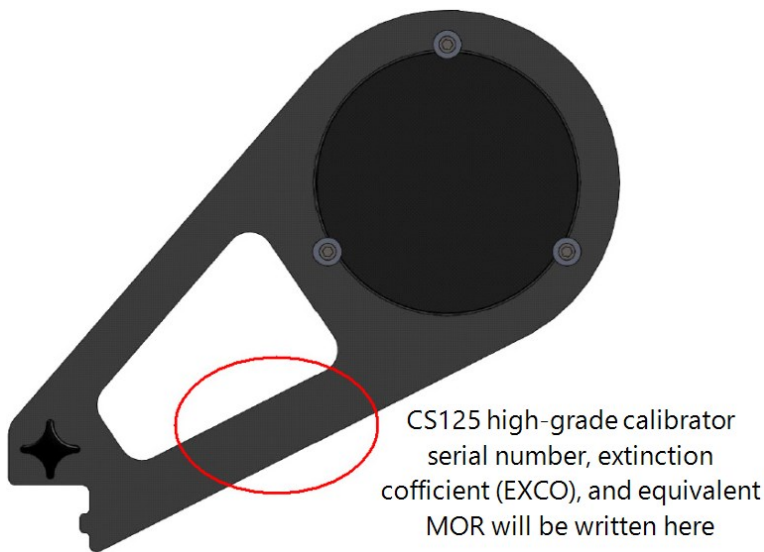

Figure 8-1. Calibration disk
7. Place the foam bungs into the sensor hoods (see Figure 8-1 [p. 44]). The bungs are designed to block all light from the outside reaching inside the head. Place one bung into each hood. If either of the bungs are damaged or appear to have any gaps around the edge, contact Campbell Scientific (see Assistance for more information).